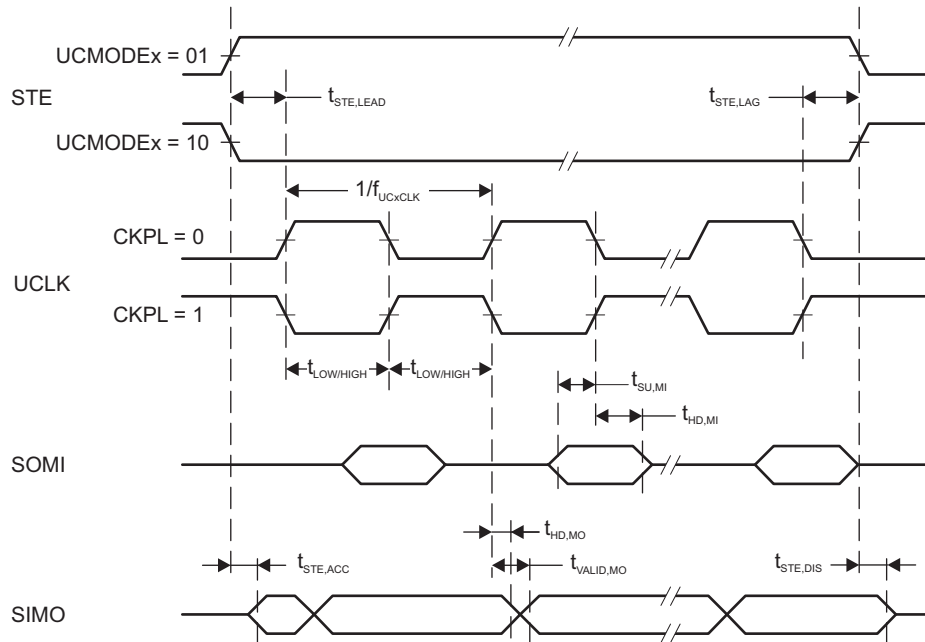
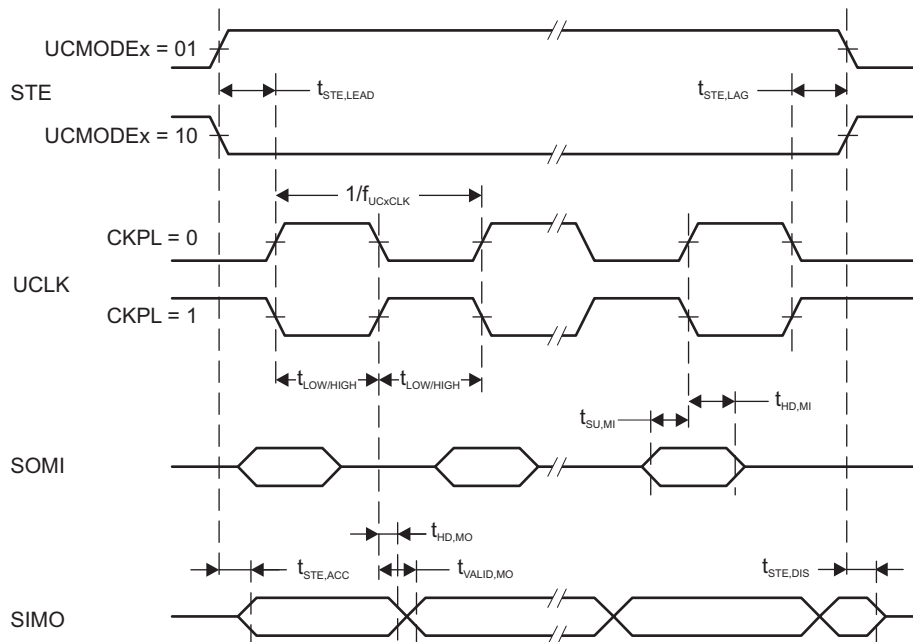

Figure 5-13. SPI Master Mode, CKPH = 0
Figure 5-14. SPI Master Mode, CKPH = 1
- (1) $f_{UCxCLK} = 1/2t_{LO/Hi}$ with $t_{LO/Hi} = \max(t_{VALID,MO}(eUSCI) + t_{SU,SI}(Slave), t_{SU,MI}(eUSCI) + t_{VALID,SO}(Slave))$. For the slave parameters $t_{SU,SI}(Slave)$ and $t_{VALID,SO}(Slave)$, see the SPI parameters of the attached slave.
- (2) Specifies the time to drive the next valid data to the SIMO output after the output changing UCLK clock edge. See the timing diagrams in Figure 5-13 and Figure 5-14.
- (3) Specifies how long data on the SIMO output is valid after the output changing UCLK clock edge. Negative values indicate that the data on the SIMO output can become invalid before the output changing clock edge observed on UCLK. Refer to the timing diagrams in Figure 5-13 and Figure 5-14.